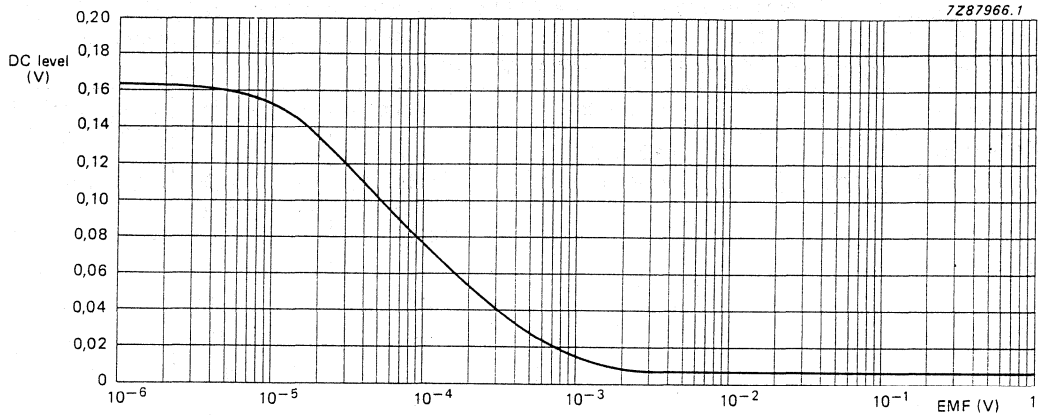

Fig. 3 Field strength voltage (V_{g-3}) at $R_{source} = 1\text{ k}\Omega$; $f = 96,75\text{ MHz}$; $V_p = 3\text{ V}$.
Fig. 3 A.F. output voltage (V_o) and total harmonic distortion (THD) as a function of the e.m.f. input voltage (EMF) with a source impedance (R_S) of 75Ω : (1) muting system enabled; (2) muting system disabled.